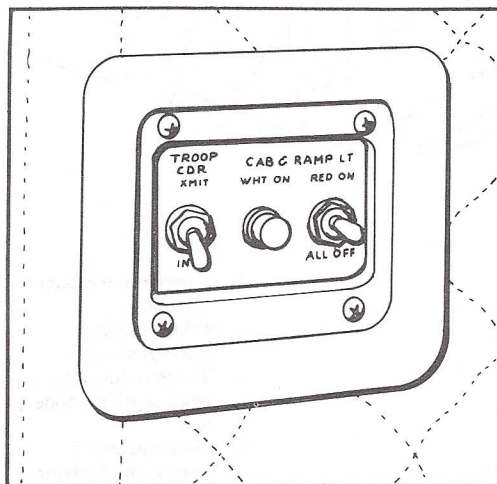

Figure 3-3. Troop Commander's Transmit Switch
- Troop Commanders' Transmit Switch The troop commander transmit switch is on a panel on the right side of the passageway. The switch positions are INPH and XMIT. The switch allows the troop commander to transmit on hf or fm radios. (See figure 3-3.)